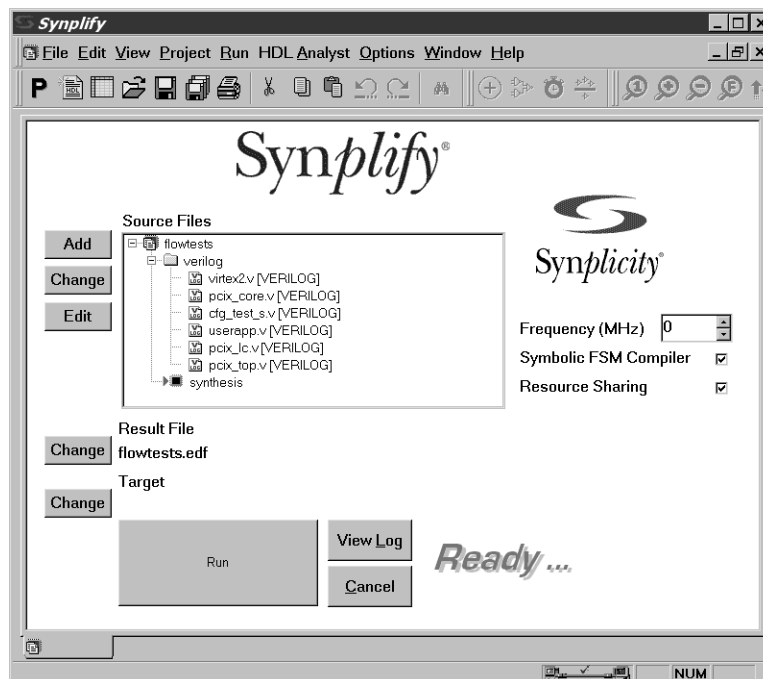

Figure 5-6: Source Files in Main Project Window
9. In the Source Files list, view the list of newly added source files by double-clicking the `flowtests/verilog` folder (if it is not already open). Reorder the source files in the folder by dragging them to list them in the hierarchical order displayed in Figure 5-6.